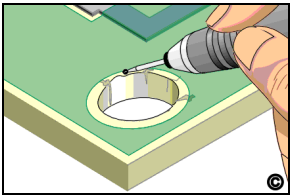

Figure 1: Mill away damaged material with the Micro-Drill and ball mill.
2. Mount a Ball Mill into the hand piece of the Micro-Drill. Mill away the damaged board base material. No fibers of laminate material should be exposed at the surface perimeter of the hole. (See Figure 1)